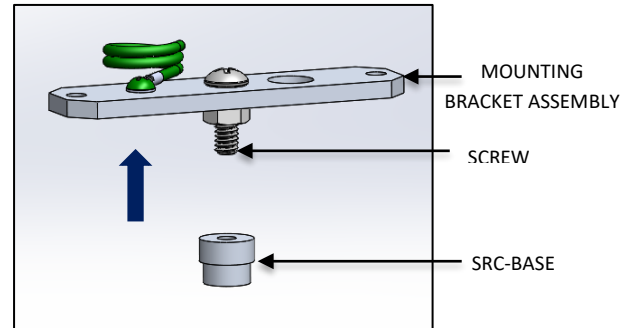

FIG. 25 –SRC-BASE INSTALLATION
2. Assemble the SRC BASE to the SCREW (Available in mounting bracket assembly) as shown below in FIG.25.